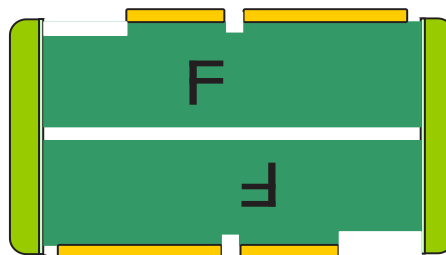

Figure 42: Recommended layout of PCBs with gold fingers.
- PCBs with gold finger connectors need to be positioned so that the fingers face outwards as shown in figure 42. This is necessary for the gold plating process.